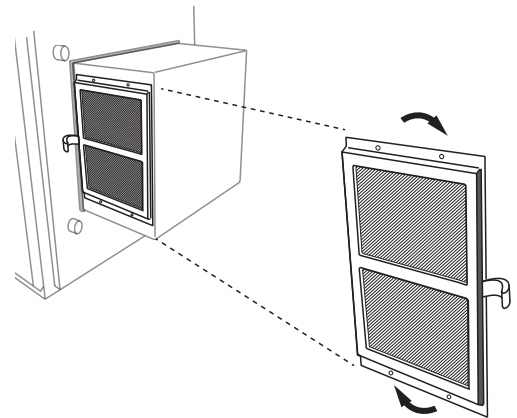

Fig. 4-2, Rotating the Filter Bracket
3. Rotate filter bracket so filter slides out away from the door (see Fig. 4-2).